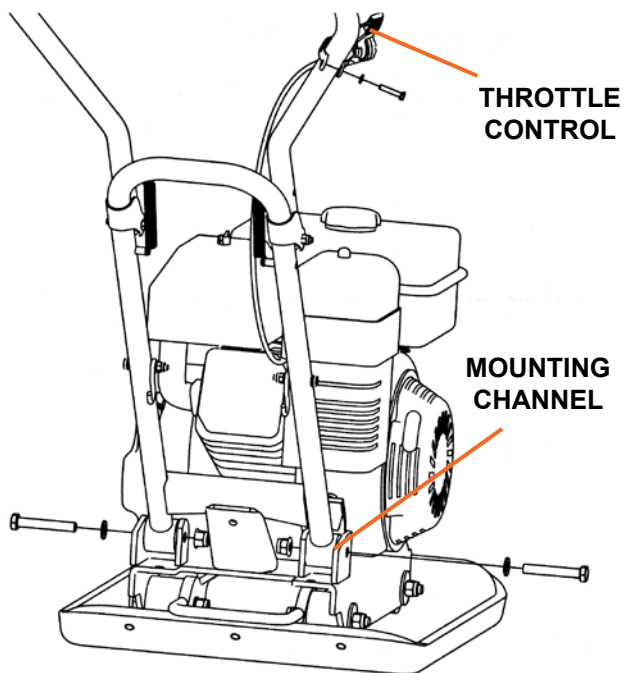

Figure 2
2. Place the handlebar ends into the mounting channels on the engine's deck, carefully aligning the holes in each side (see Figure 2). Secure the handlebar ends to the channel with a hex bolt (M10x65mm), flat washer and locknut.